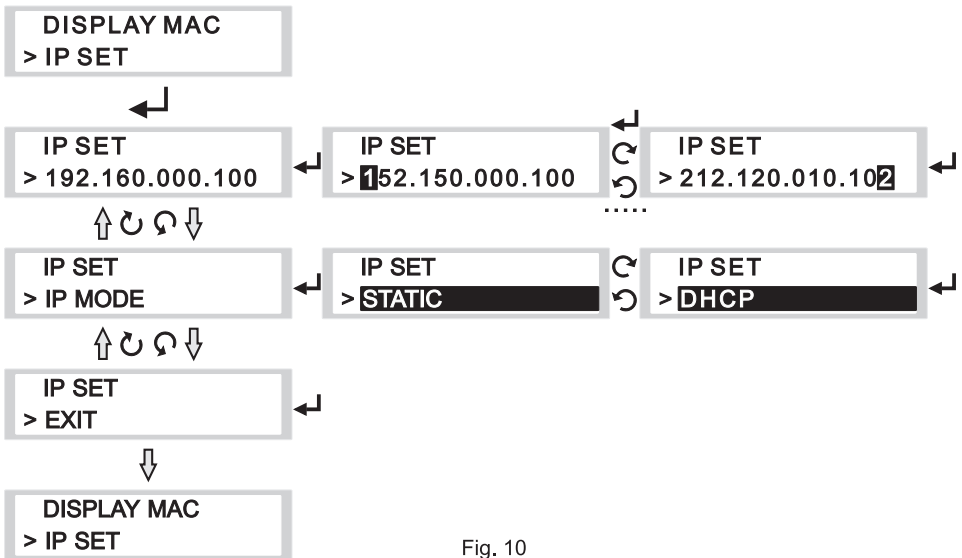

Fig. 10
- (1) Rotate the rotary control knob to "DISPLAY MAC" and press the knob again to how MAC address of MES-100. MAC address is different from different MES-100.
- (2) Press the rotary control knob again to return to the main screen.
(B) IP SET Operation, Fig. 10: